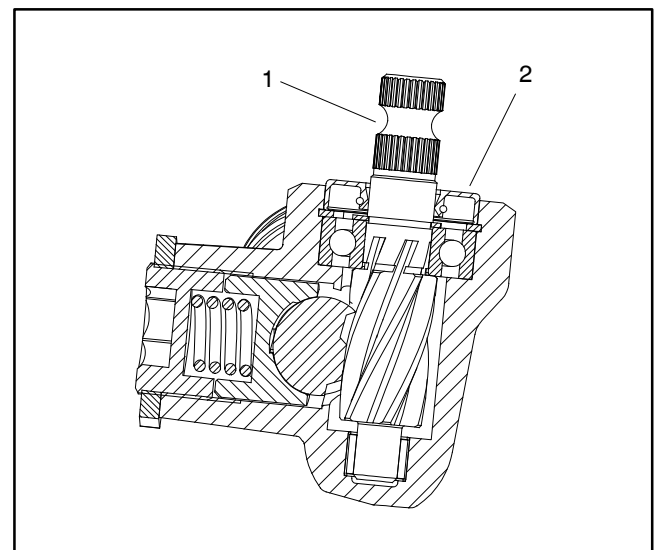

Figure 30
6. If necessary, remove input shaft seal from steering rack input shaft (Fig. 30):
- A. Mark and drill two (2) holes in the outer face of the seal.
- B. Thread two (2) self-tapping screws into the drilled holes in the face of the seal.
1. If input shaft seal was removed from steering rack, install new seal into rack. Seal should be pressed fully into bore of rack until it contacts retaining ring in bore (Fig. 30).